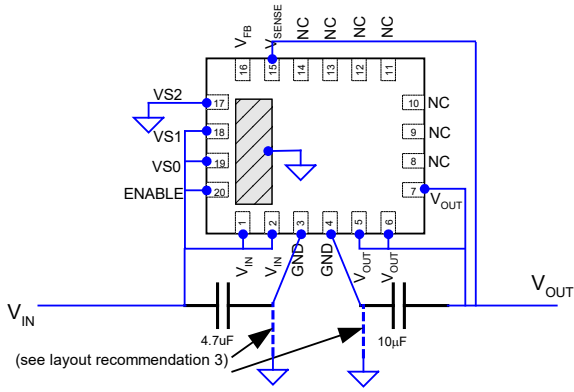
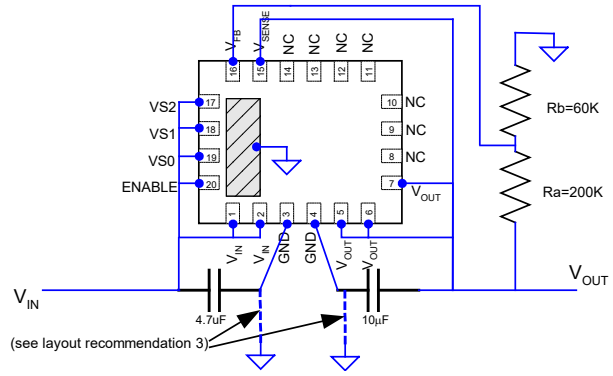

Figure 7. Example application,  $V_{out}=1.5V$
Figure 8. Example Application, external divider,  $V_{out} = 2.6V$
**Recommendation 3:** Multiple small vias (0.25mm after copper plating) should be used to connect ground terminals of the Input capacitor and the output capacitor to the system ground plane. This provides a low inductance path for the high-frequency AC currents; thereby reducing ripple and suppressing EMI (see Fig. 7, Fig. 8, and Fig. 9).
Figure 7 shows an example schematic for the EN5312QI using the internal voltage select. In this example, the device is set to a VOUT of 1.5V ( $VS2=0$ ,  $VS1=1$ ,  $VS0=1$ ).
Figure 8 shows an example schematic using an external voltage divider.  $VS0=VS1=VS2=“1”$ . The resistor values are chosen to give an output voltage of 2.6V.